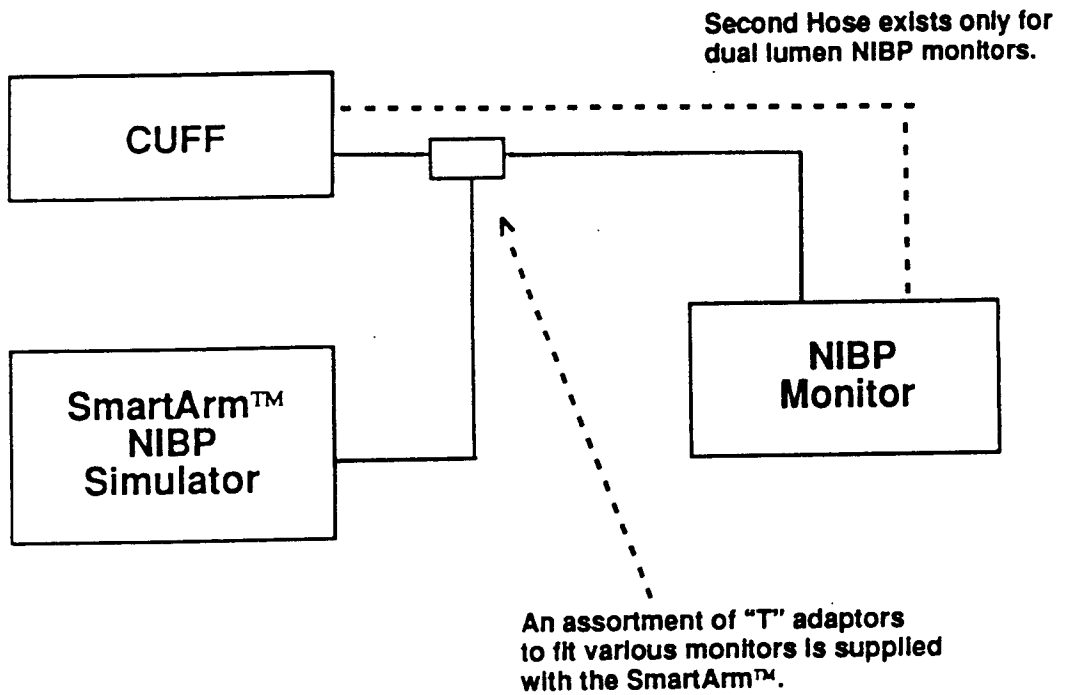

Figure 5-1. Pneumatic connection between the SmartArm and the NIBP Monitor.
6. Please refer to Figure 5-1 for an illustration of the proper connection between the SmartArm and the NIBP monitor to be tested.